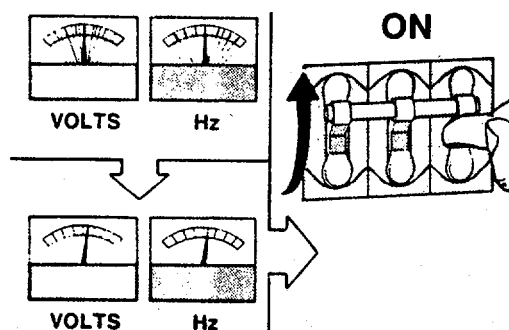

FIGURE 3-33. Secure Circuit Breaker.
- (6) Close the generator set circuit breaker (FIGURE 3-33).